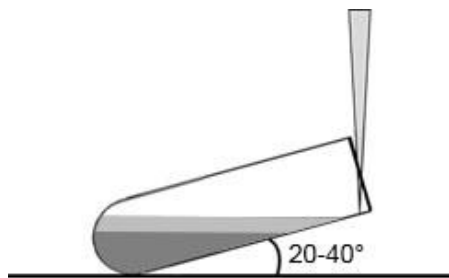

Figure 1 – Correct position of tube during layering gradients
- 2.5.3. Then, take UC tube and 1mL pipette, and hold the tube angled (approx. 20-40°) by hand (Fig.1).